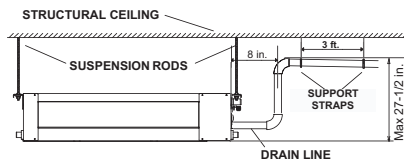

Fig. 20 — Condensate Piping
- The highest point in the condensate piping should be as close to the unit as possible. See Fig. 20.